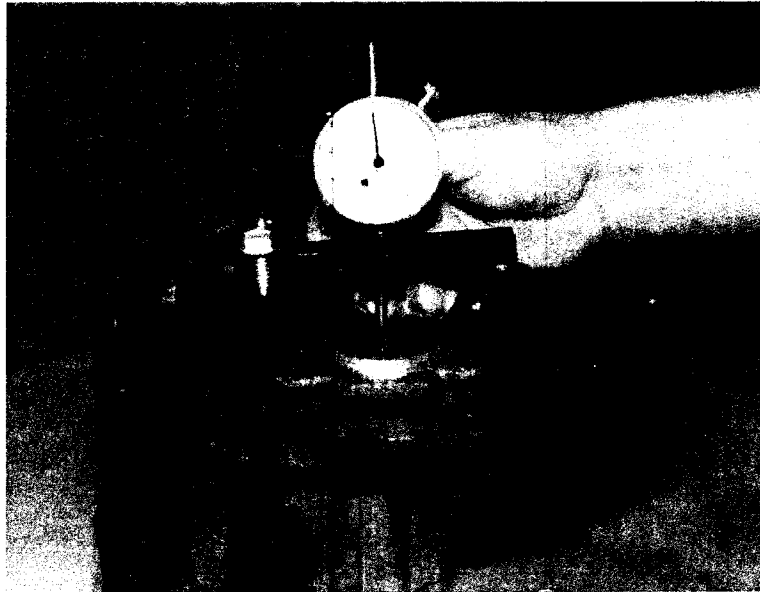
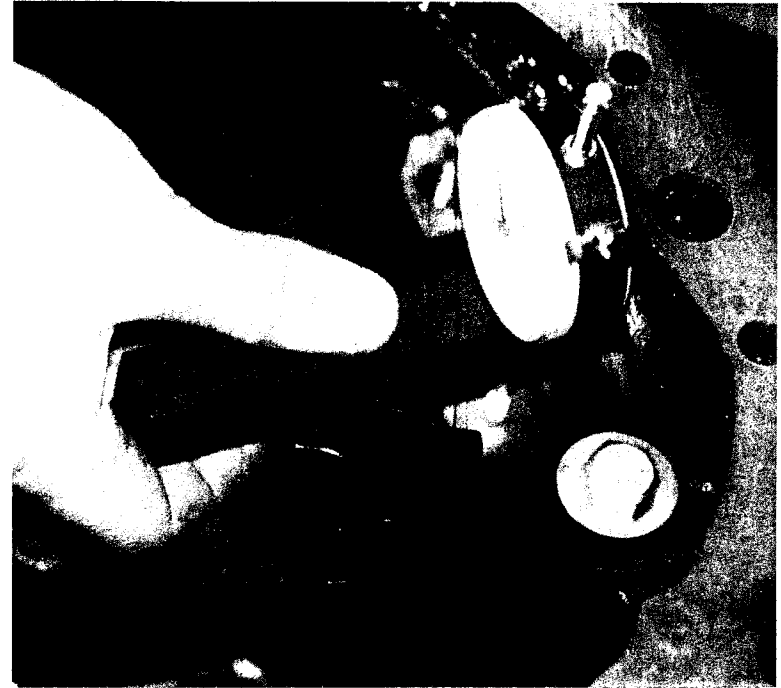

FIGURE 4
FIGURE 5
A. Bolt the Swing Bars in place of the bearing cap as shown in Figure 5. Place the end of the outer Swing Bar adjacent to the other side of the bearing support.
- Place the Indicator Holder firmly and squarely on the Swing Bar, and move the Indicator tip around in the carrier bearing bore (also referred to as the "saddle") to obtain the lowest Indicator reading as shown in Figure 4 and Figure 5. Read tenths of an inch with the small pointer, hundredths and thousandths with the large pointer. Record the Indicator reading.